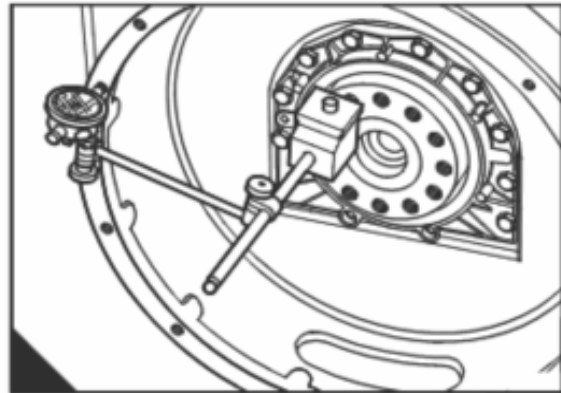

Fig. M4
5. Check the housing alignment (Fig.M4). The maximum tolerance is given in the data and dimensions. Any necessary adjustment must be made on the housing and not on the cylinder block.